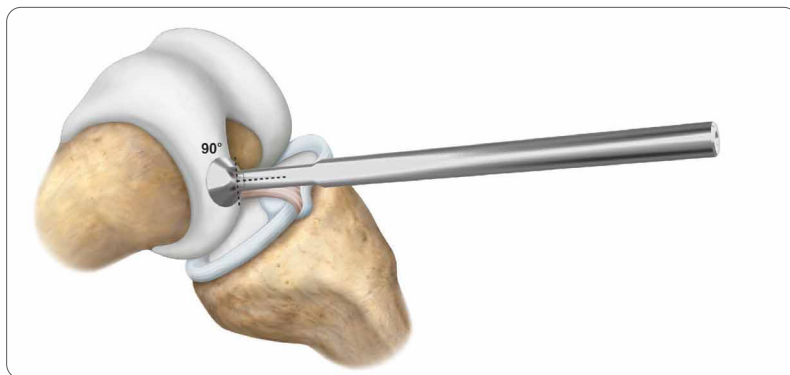

Figure 1
1. Position the Perpendicular Aligner in the lesion center and verify that it is perpendicular to the articular surface (**Figure 1**).